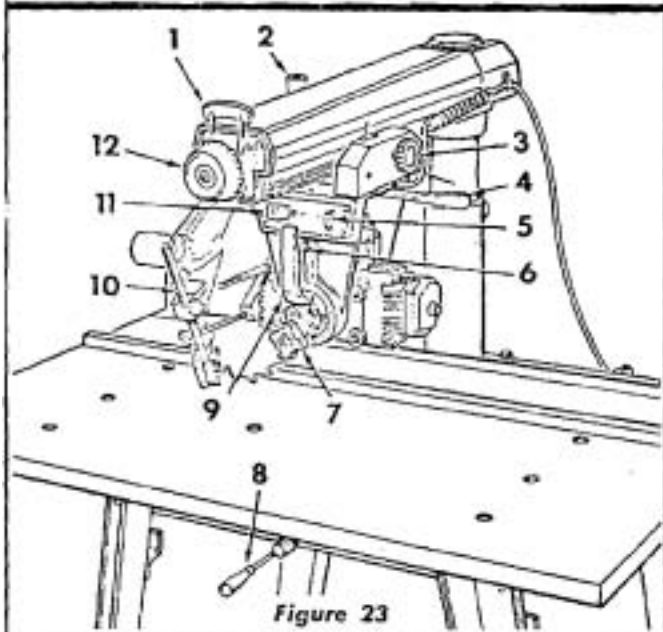

Figure 23
This is accomplished by the elevation crank (8, figure 23). **One** complete turn of this handle will raise or lower the radial arm **1/8-inch**.
This is accomplished by the carriage lock knob (3, figure 23). Turn the knob clockwise to lock; **counterclockwise** to unlock.
These movements are controlled by the arm latch lever (1, figure 23) and the arm latch handle (12). The radial arm can be rotated **360°** and locked in any position. The arm is unlocked from any position by a slight counterclockwise rotation of the arm latch handle (12) and is locked in any position by rotating the arm latch handle clockwise until tight. The radial arm has positive stops at **0°** and **45°** left and right, and is released from these index positions by unlocking the arm latch handle (12) and pulling out the arm latch lever (1).
1. If the radial arm is already indexed, **rotate** the arm latch handle (12, figure 23) 1/4 turn counterclockwise from the locked position, pull out the arm latch lever (1) and move the radial arm off the index position. Release the arm latch lever (1).
3. Lock the radial arm by rotating the arm latch handle (12, figure 23) clockwise until tight.
These movements are controlled by the latch pin handle (6, figure 23) and bevel lock knob (7). The bevel scale indicates the angular position of the motor with respect to horizontal from **0°** to **90°** in either vertical position. The latch pin handle (6) **automatically** indexes the motor at **0°, 45°** and **90°** up and down. Lift the latch pin handle to release. At any other position, the latch pin handle is not engaged. The bevel lock knob (7) locks the motor to the yoke when the motor is in any position. Rotate it clockwise to lock; counterclockwise to unlock.